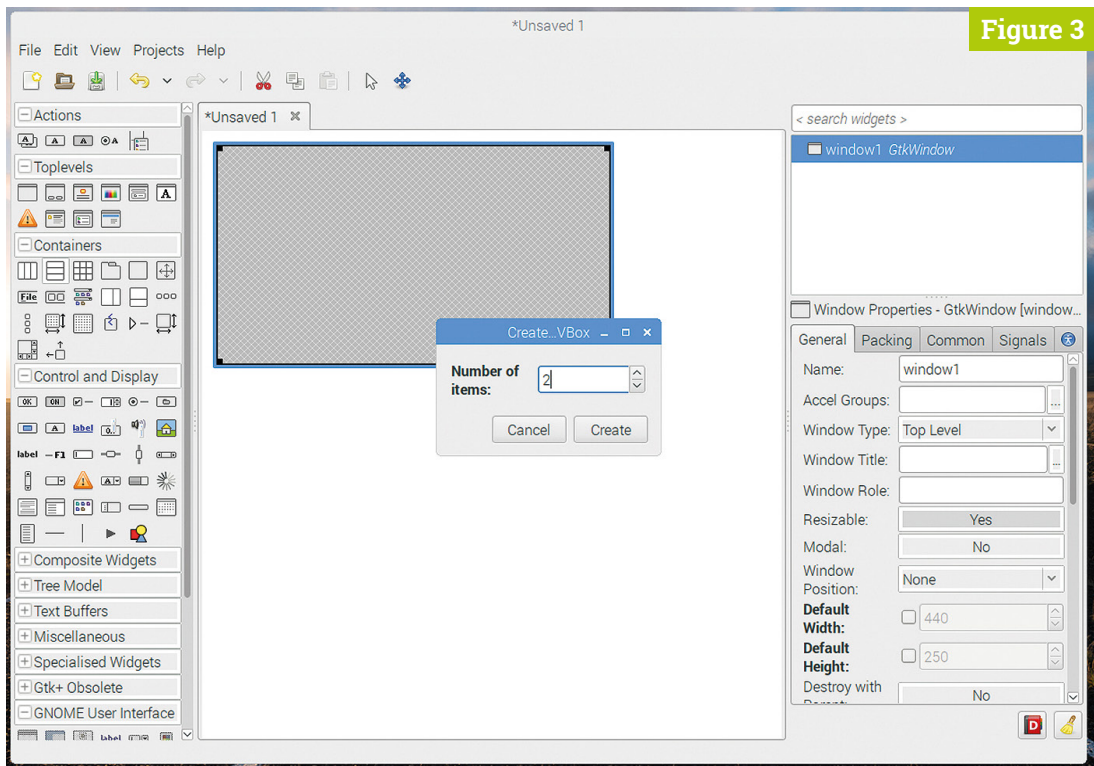

Figure 3
Let's add a VBox to put some widgets in. The widget palette has a section labelled 'Containers', in which the first two entries are an HBox and a VBox – click the VBox, and then move the cursor into the blank window and click within it. A dialog will pop up asking how many items you want in the VBox – set it to 2, and click 'Create' (Figure 3, overleaf).
► Figure 3 Adding a vertical box